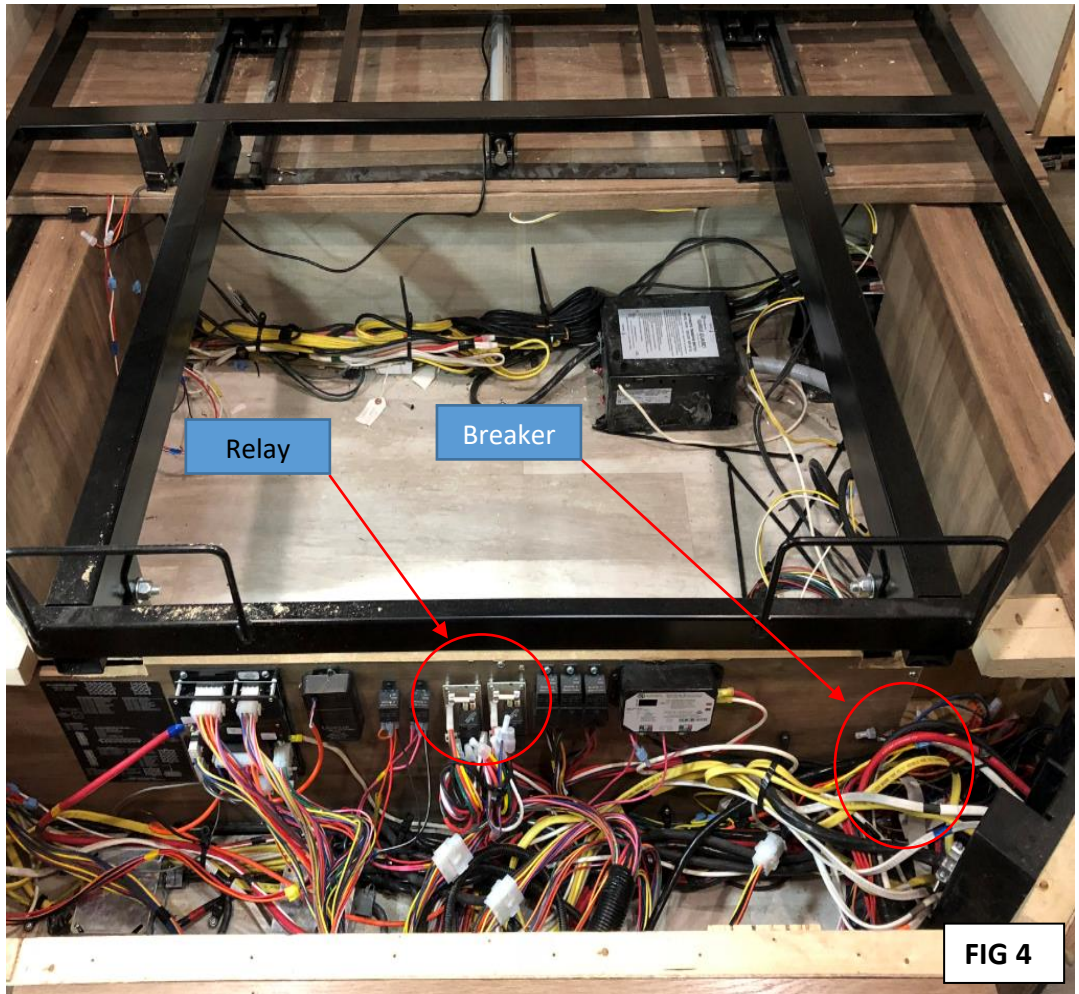

FIG 4
- 7. Refer to the arrows for the placement of the Kitchen slideout relay and the 30 amp breaker in the bed box shown in Fig 4.